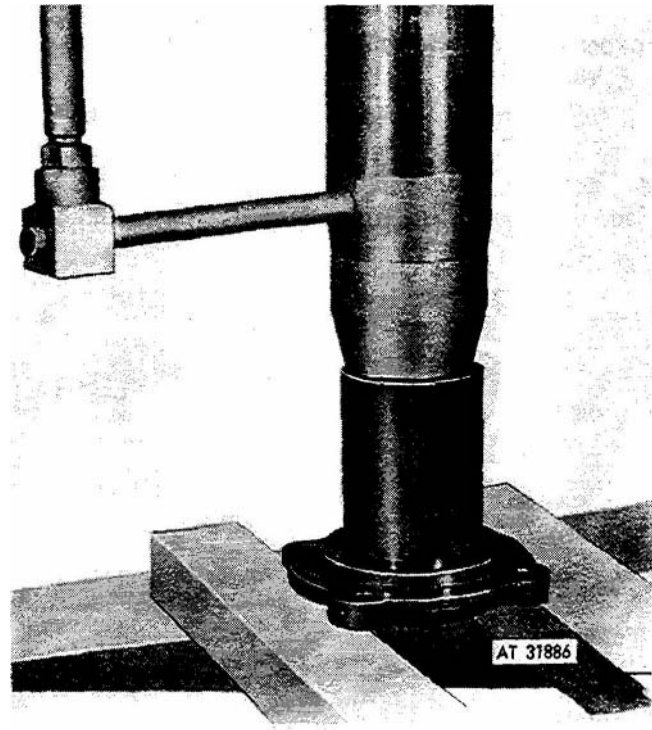

Figure 3-90. Pressing seal from retainer.
(4) Remove propeller shafts from retainers (5 and 31, fig 3-88) and press seals (2 and 32) from retainers (fig 3-90).